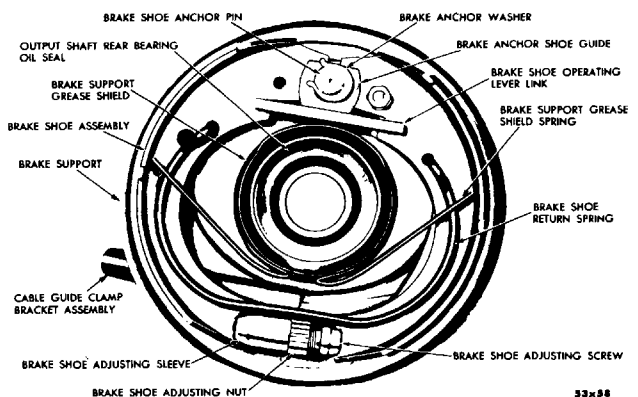

Fig. 89—Internal Expanding Hand Brake (Drum Removed)
(4) Install the brake support grease shield spring (opening in spring toward adjusting sleeve). Make sure spring is properly seated in groove.
(5) Slide the brake shoe return spring behind the grease shield spring and hook into position, as shown in Figure 89.
(6) Install "C" type brake anchor washer.
(7) Install propeller shaft flange and drum assembly, washer and nut. While holding flange with Tool C-3281, tighten to 175 foot-pounds torque.